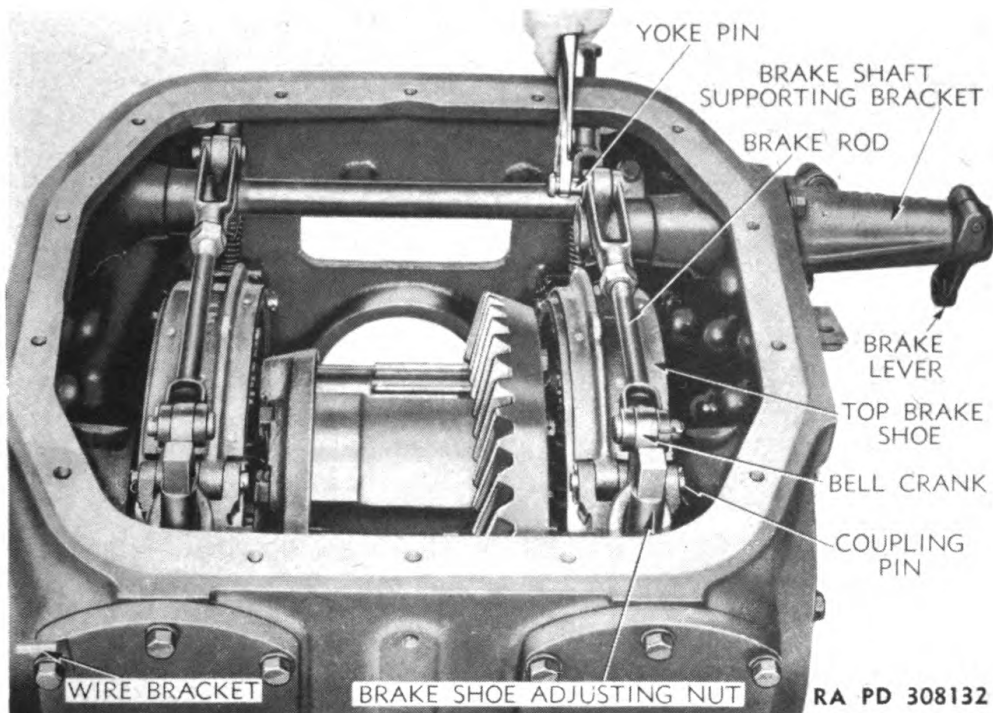
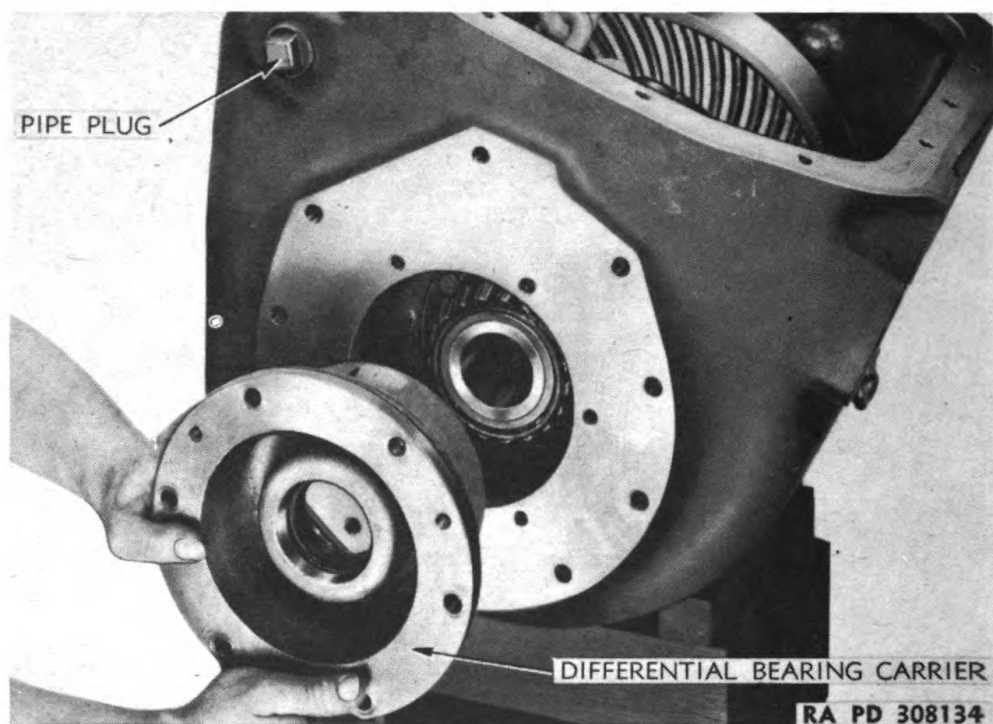
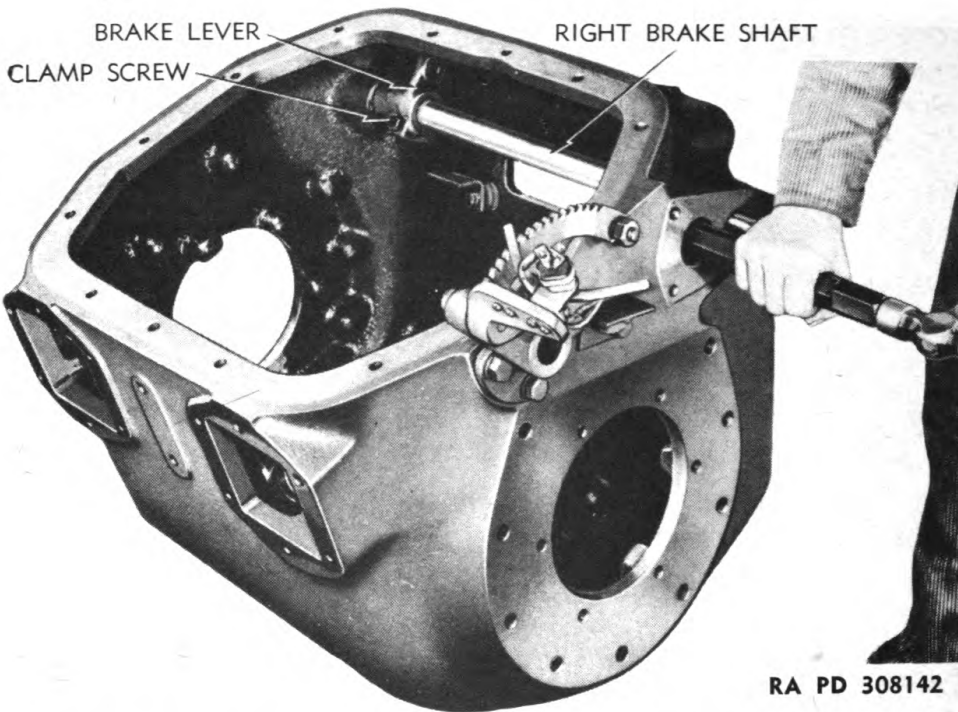

Figure 32 — Disconnecting Steering Brake Rod From Lever
Figure 34 — Differential Bearing Carrier Removed
Figure 42 — Removing Brake Shaft Bushing, Using Remover (41-R-2376-290)
a. **Remove Brake Linkage.** Pull cotter pins and end yoke pins and remove steering brake rods (fig. 32). Disconnect both ends of top brake shoes by removing coupling pins and remove both top shoes. Remove cotter pin and flat washer from outer end of each brake shoe and bell crank pin (lower pin in anchor) and remove these pins. Remove brake shoe adjusting nuts from brake shoe yokes. Remove the six attaching cap screws from each brake anchor, maneuver anchors to remove anchor pins from anchors and brake shoe
b. Remove Differential Assembly From Case. Swing hoist into position over differential, engage hooks of lifting chain under rim of brake drums as shown in figure 35 and take up slack in hoist chain to support weight of differential. Cut lock wire and remove the six retaining cap screws from each differential bearing carrier. Mark carriers and housing with center punch for relative position in housing. Force carriers out of case by installing three cap screws in tapped holes in carriers and remove bearing carriers and shims (fig. 34).
g. **Remove Brake Control Shafts From Housing** (fig. 42). Cut and remove lock wires in clamp screws in collar and lever on long shaft. Remove clamp screws from collar and lever. Remove pipe plug from housing at end of long control shaft (fig. 34). Remove clamp screw, then tap lever off outer end of shaft (fig. 32). Remove